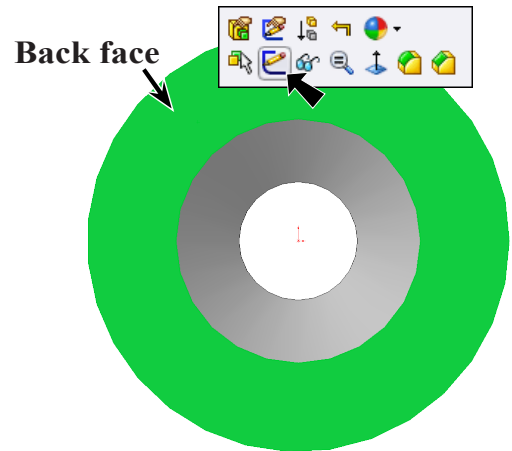
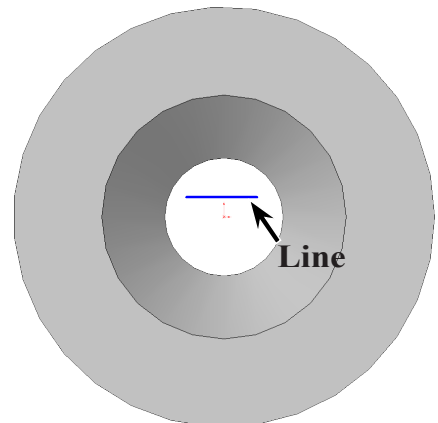

Fig. 11
Fig. 12
Step 2. Click the back face of the body and click **Sketch**  on the Content menu, **Fig. 11**.
Step 3. Click **Line**  (L) on the Sketch toolbar.
Step 4. Draw a horizontal line across away from the Origin, **Fig. 12**.